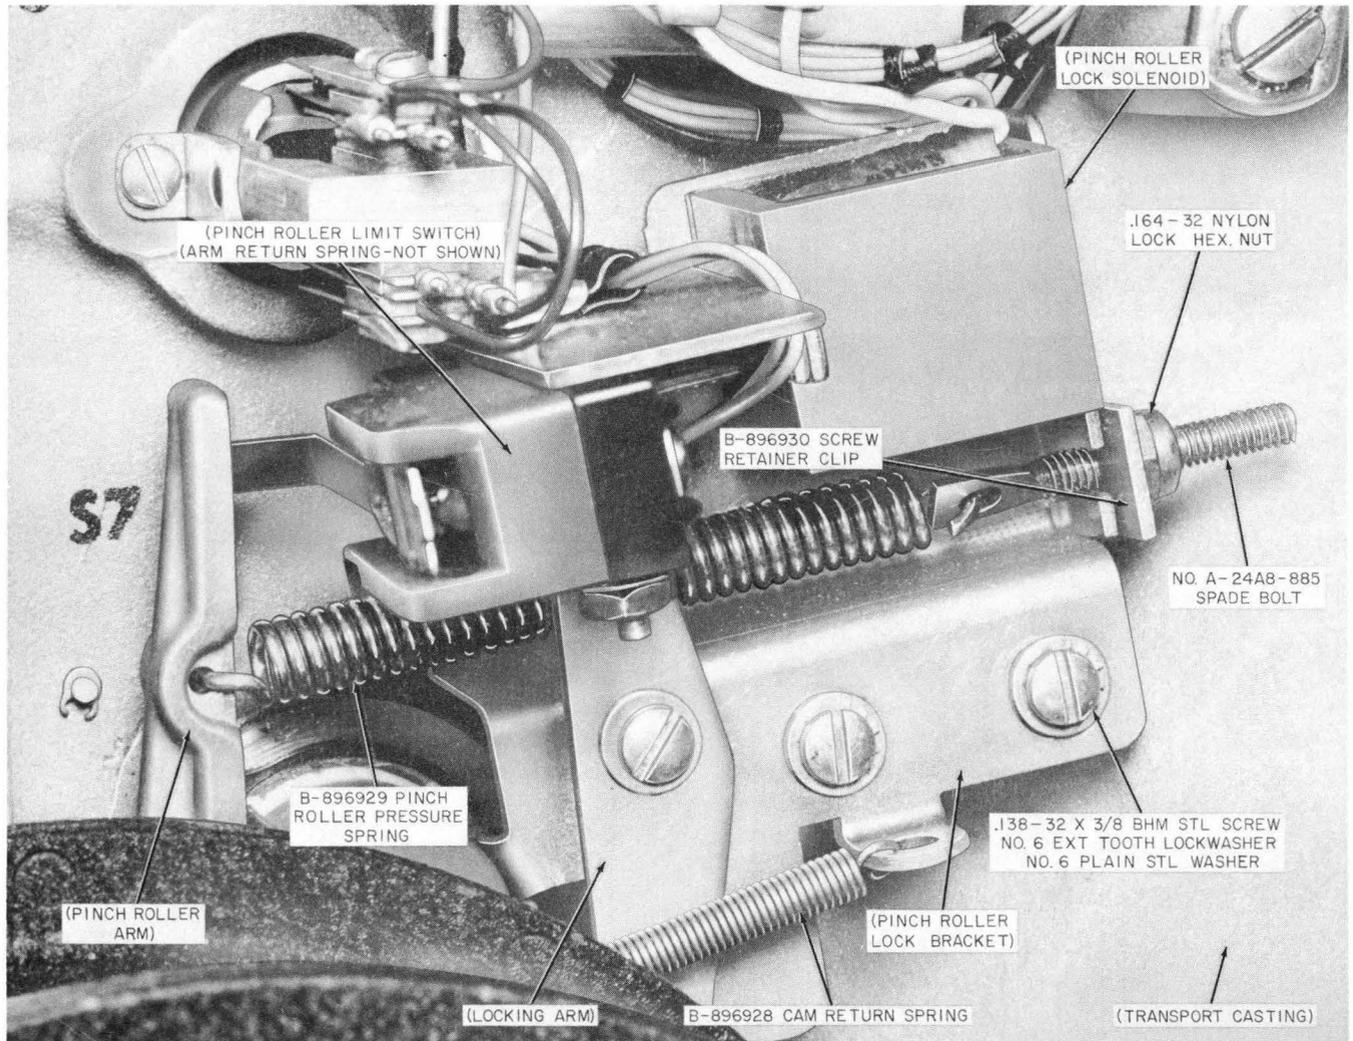
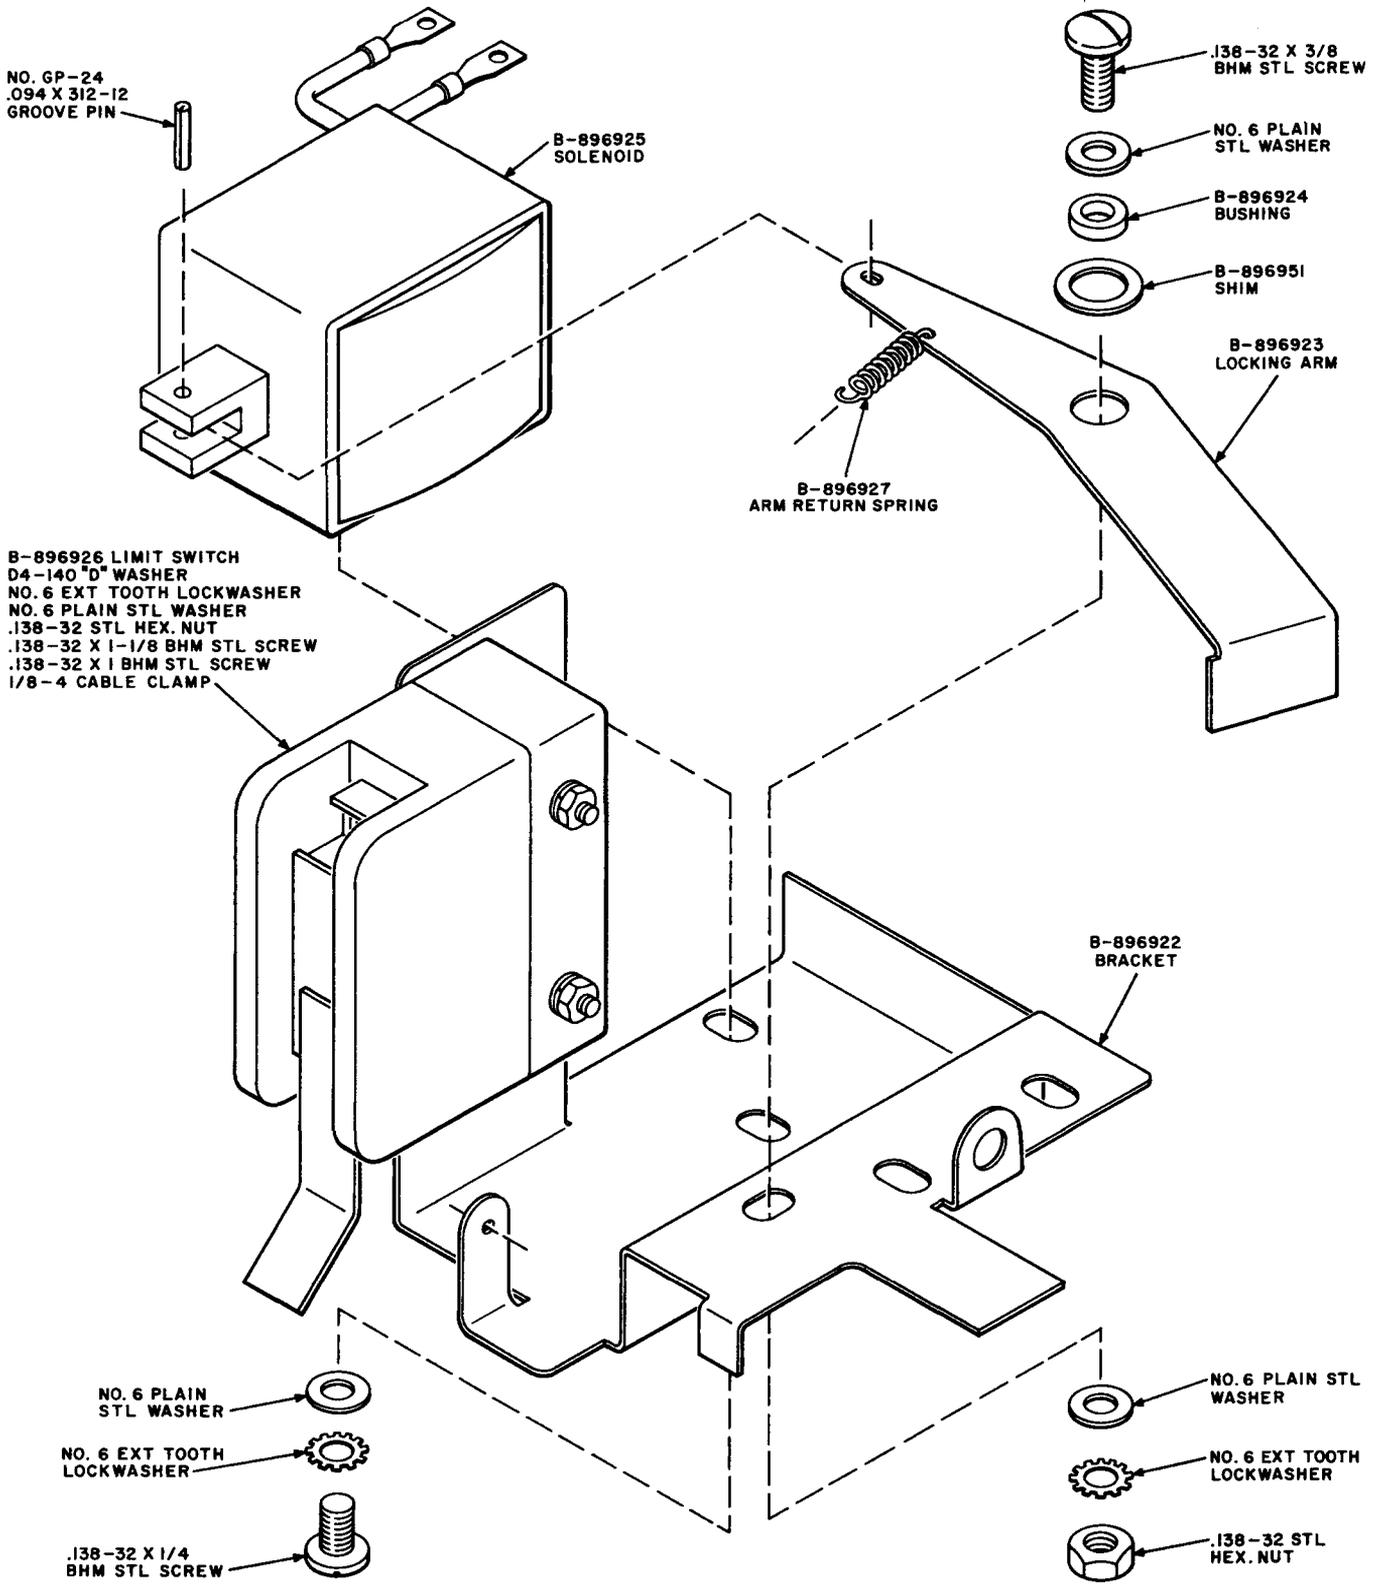

Fig. 22 — Pinch Roller Lock Solenoid and Associated Parts — Mounted on Transport Casting
Fig. 23 — Pinch Roller Lock Group — Exploded View
- (1) To remove the pinch roller lock solenoid, disconnect and tag the two solenoid leads (Fig. 4) from terminals 19 and 20 of TB3 and the four leads from terminals of pinch roller limit switch. Use the 11/32-inch open-end wrench to remove nylon lock hex. nut (Fig. 22) holding screw retainer clip and spade bolt; unhook pinch roller pressure spring from pinch roller arm; and remove spring, spade bolt, and retainer clip. Unhook cam return spring from pinch roller lock bracket. Using the 4-inch E screwdriver, remove the two screws holding the bracket to the transport casting; and remove the bracket, solenoid, pinch roller limit switch, arm return spring, and locking arm as a group. Use the 3/32-inch drive pin punch to remove pin (Fig. 23) from solenoid plunger. Using the 4-inch E screwdriver, remove two screws, lockwashers, and plain washers holding solenoid to bracket and remove solenoid.
- (2) To install pinch roller lock solenoid, place new solenoid (Fig. 23) on bracket so that the screw holes in the bracket are aligned with those in the solenoid. Then secure with the two screws, plain washers, and external tooth lockwashers using the 4-inch E screwdriver, and pin locking arm to solenoid plunger using the 3/32-inch drive pin punch and the 4-ounce riveting hammer. Place the bracket, solenoid, switch, arm return spring, and locking arm as a group in the position shown in Fig. 22; and secure bracket to transport casting with the two screws, plain washers, and external tooth lockwashers using the 4-inch E screwdriver. Hook cam return spring to the bracket; and install pinch roller pressure spring, spade bolt, screw retainer clip, and nylon lock hex. nut using the 11/32-inch open-end wrench to tighten the locknut. Connect lead as follows: